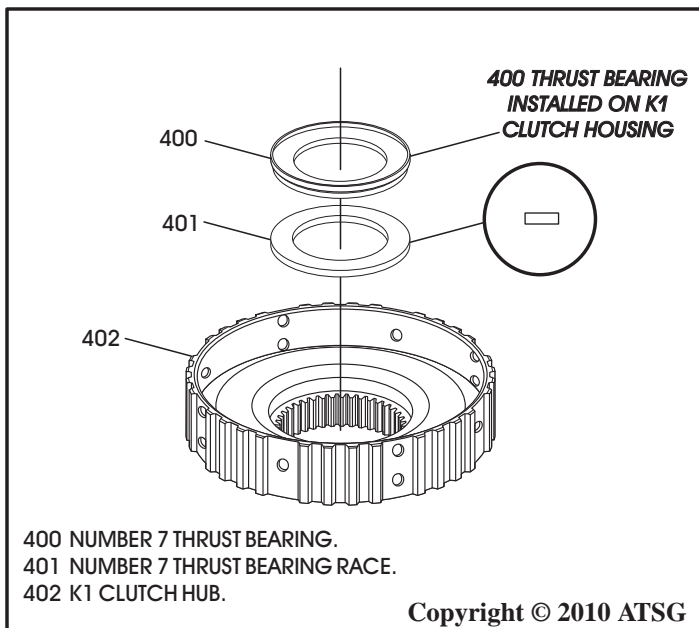

Figure 120
10. Turn K1 clutch hub over and install number 7 thrust bearing race, as shown in Figure 120, and retain with Trans-Jel®.